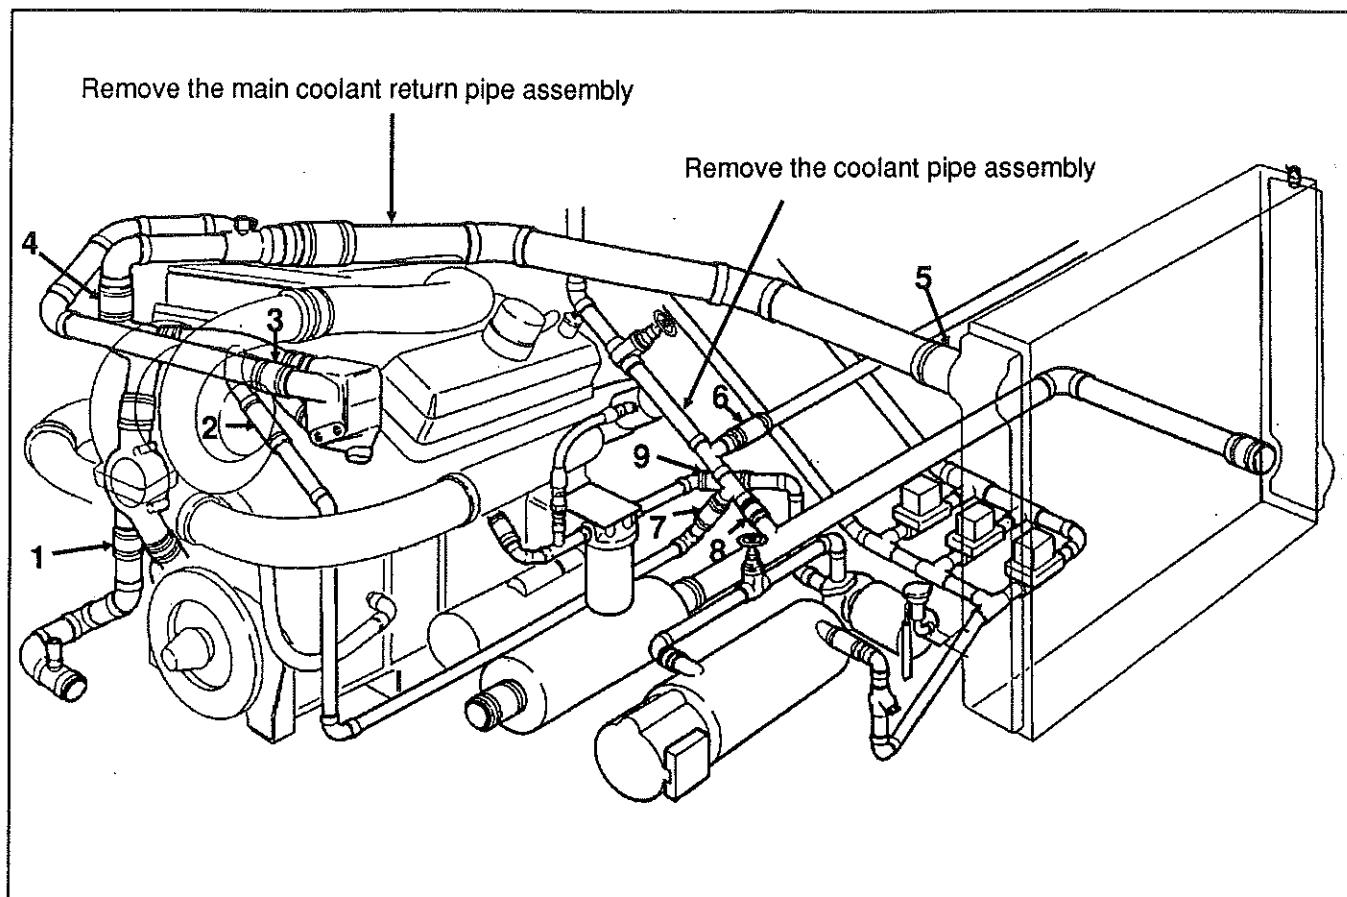

FIG. 13 - Engine disconnect points
4. Disconnect the coolant pipe from the water pump (see fig. 13, item 1).
5. Disconnect the coolant pipe located behind the engine turbocharger (see fig. 13, item 2).
6. Disconnect the main coolant return pipe at the three (3) connection points illustrated by items 3,4,5, on figure 13; remove the bracket securing the pipe to the engine, then remove the whole pipe.
7. Disconnect the coolant pipe at points illustrated by items 6, 7, 8 on figure 13, then remove the pipe.
8. Disconnect the coolant pipe located just after the coolant filter (see fig. 13, item 9).
14. Disconnect wiring connectors (C-280, C-281, C-282) from the three (3) water solenoid valves.